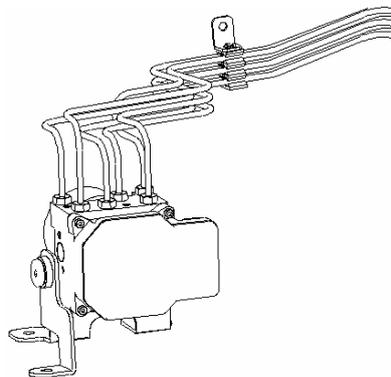

Fig. 3-9
(1) Remove the protection film on HECU, and confirm pipelines of master pump and wheel slave cylinder before operation (master pump: MCP and MCS; wheel slave cylinder: FR, FL, RR and RL).
(2) Make sure the brake pipe is tightened and torque is 14N·m with a special tool, torque wrench or other equipments.
(3) No foreign material is allowed in HECU holes and brake pipes, as shown in Fig. 3-9.